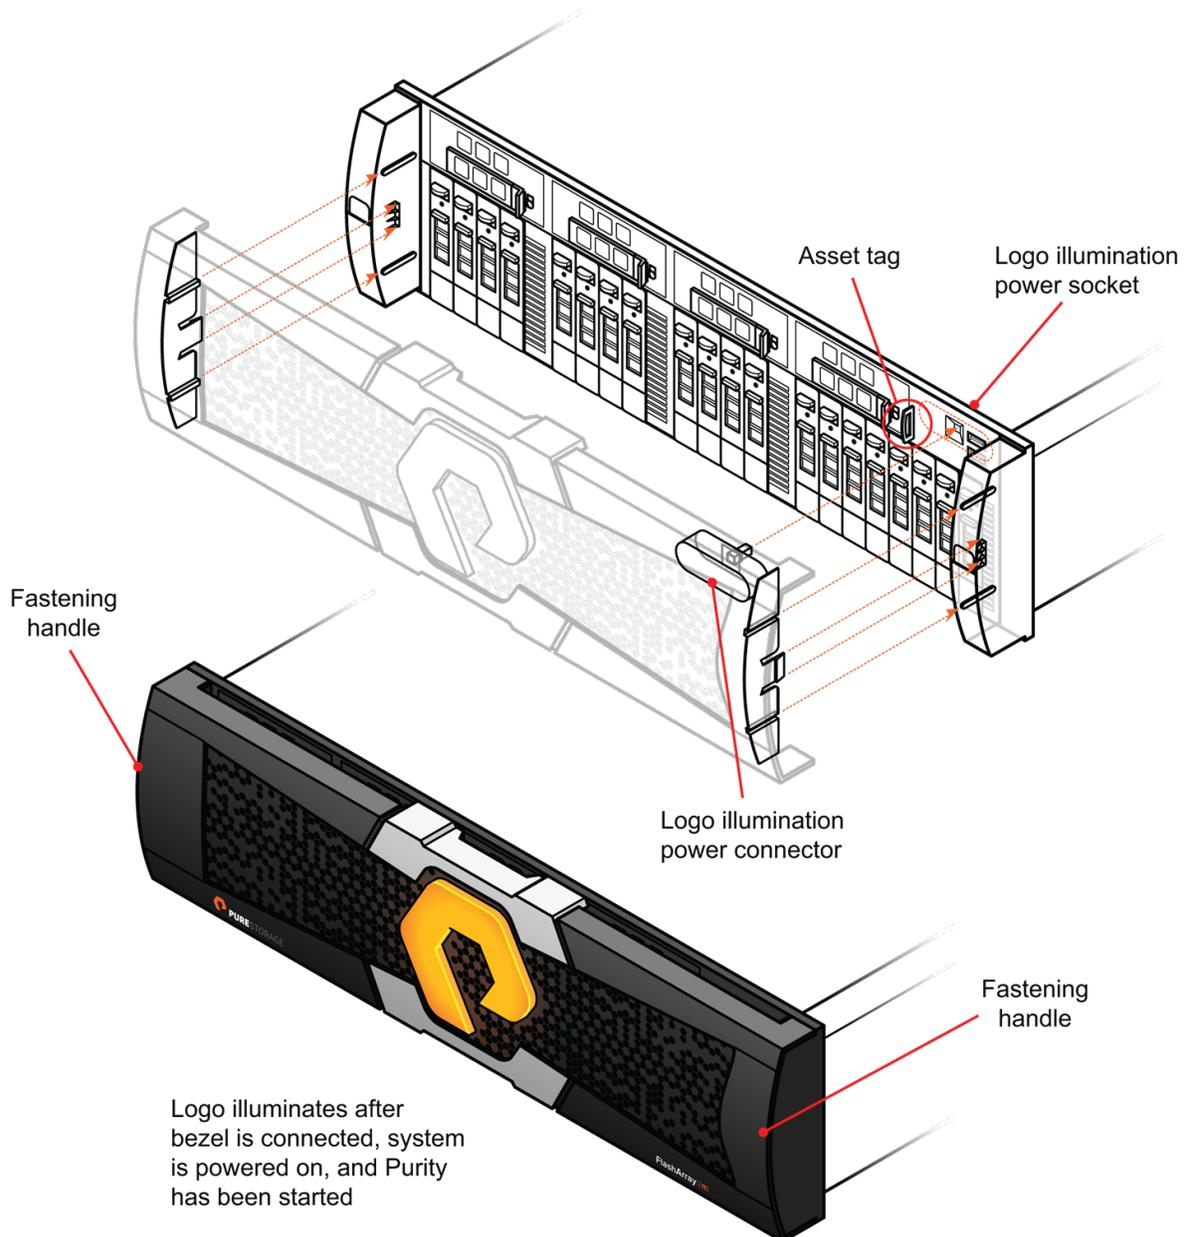

Figure 12-2. Installing the Bezel
2. Install the bezel, aligning the power connector with the logo illumination socket on the front panel. See Figure 12-2.